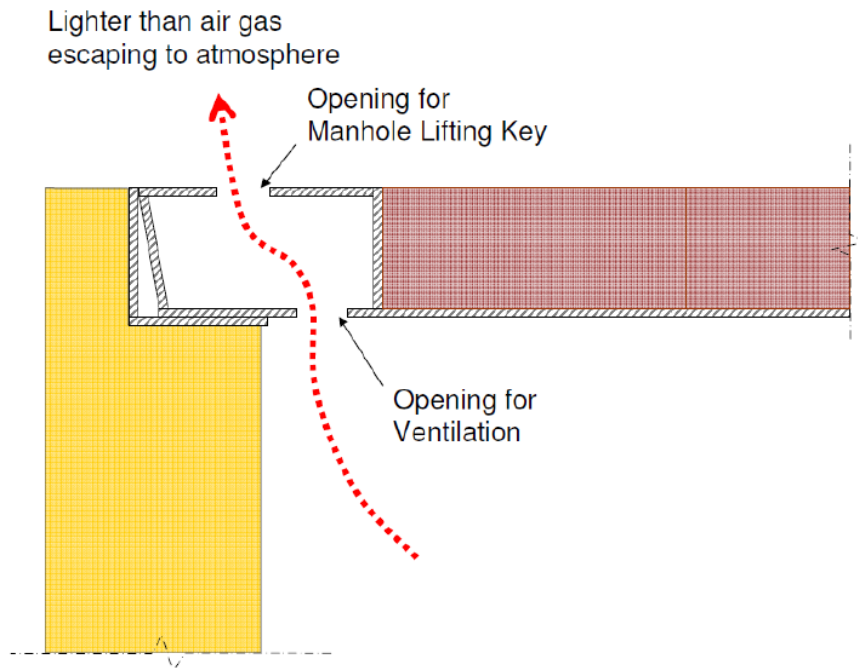

Figure 1: Schematic Layout of Vent Hole in the New Design for Concrete Infill Cover or Recessed Manhole Cover
2.4 Figure 1 below illustrates the schematic layout of the design of new type of manhole covers which is applicable to both recessed covers and concrete infill covers. The manhole cover should consist of at least two metal compartments, each of which comprises two holes, i.e. the upper hole for manhole lifting key and the lower hole located at the base tray for ventilation. These two holes provide a passage for lighter-than-air gases to escape to the atmosphere. To minimize possibility of trash falling through, the width of the upper hole should be in the range of 15 mm to 20 mm. The size of the lower hole should be determined based on the requirement that the hole will remain unblocked even though dust and debris may enter through the upper hole. According to the Consultant's study report, a hole of 30 mm in diameter or equivalent area will allow dust and trash to pass directly through to the manhole chamber without blocking the vent hole.